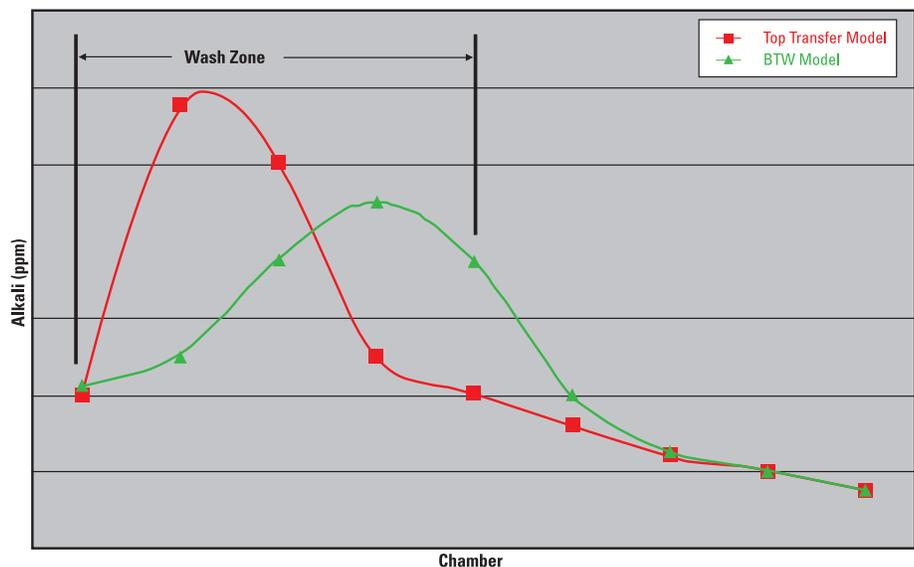

Figure 21—Typical Chemical Gradient in Braun BTW and top transfer tunnel
**Figure 21** contrasts a typical alkali concentration gradient in the wash zone for a Braun BTW and a top transfer tunnel. The Braun BTW curve is based on a model validated with field test data. After the wash zone in the BTW, the bath exchange is employed to drain and refill the chamber to aggressively begin the rinsing process.